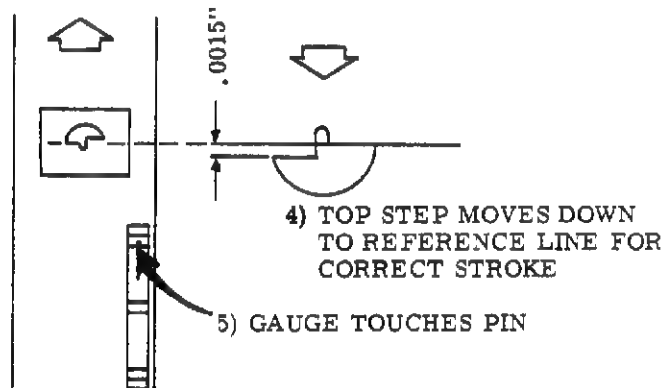

Figure 3-30. CLAW PULL DOWN STROKE
9. Pull up on the Gauge. The projected Target will move down. The upper Target step must touch the reference line drawn in Step 8 for correct stroke (Figure 3-30).